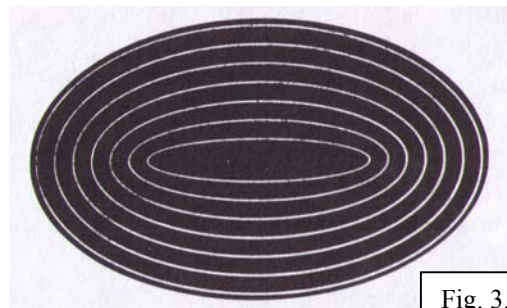

Fig. 3.
2. To form two or more parallel ellipses (e.g. when making an elliptical box with a wall of uniform thickness) only the radius of the slide-rest should be adjusted: the off-set of the cam-ring should remain fixed (see Fig. 3).